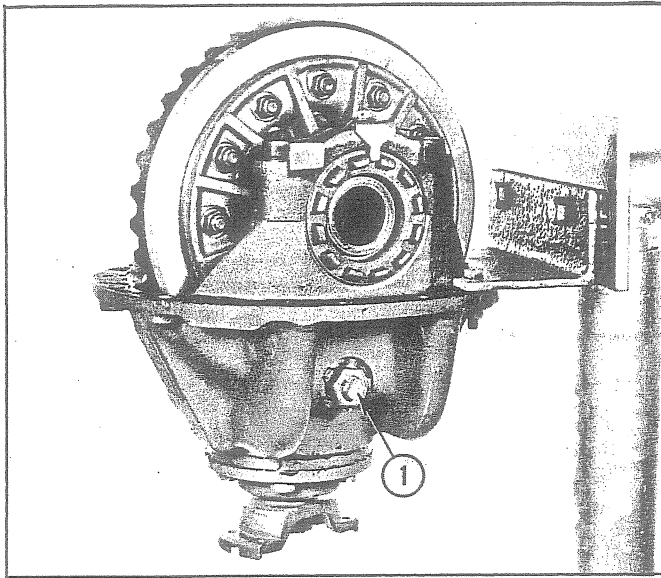

Fig. 47 - Side View of Differential Assembly
2. Loosen lock nut and back out the differential thrust screw, No. 1, Fig. 47, enough turns to clear ring gear.